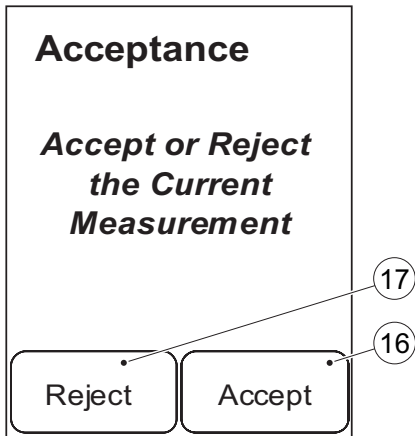

FIGURE 4-24
j) FIGURE 4-24 will be displayed.
The Waste bin (19) indicates that the result has been rejected (see FIGURE 4-24).
- m) Press the Confirm button (20).